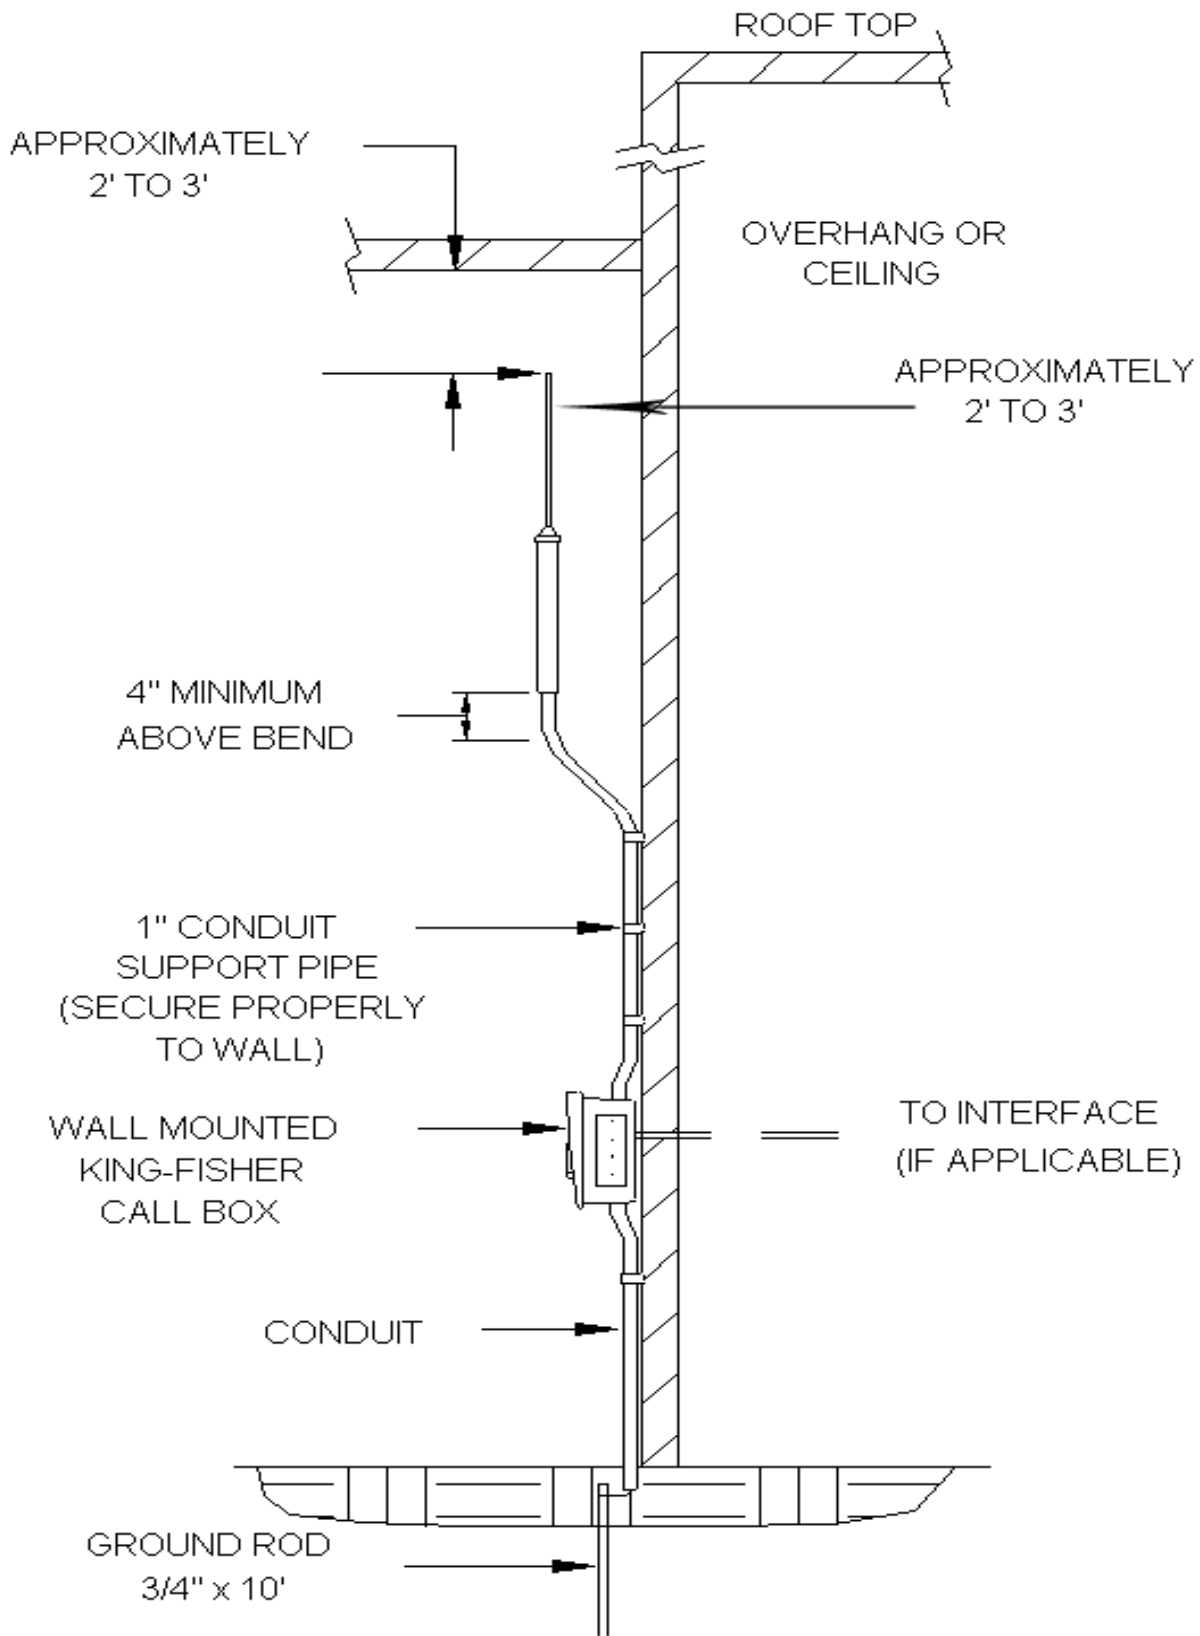

Figure 4
5. If the antenna is to be mounted to a wall with the antenna below the rooftop, offset the support pipe by 2’ minimum (see Figure 4).
6. The following (3) Steps will assure proper and successful installation of the radio antenna:
4. Screw the lower end of the **Support Pipe** into the metallic **Junction Box** (or Transmitter if applicable). Use a Pipe Wrench and make sure that any offset is aligned away from the wall (see Figure 4).